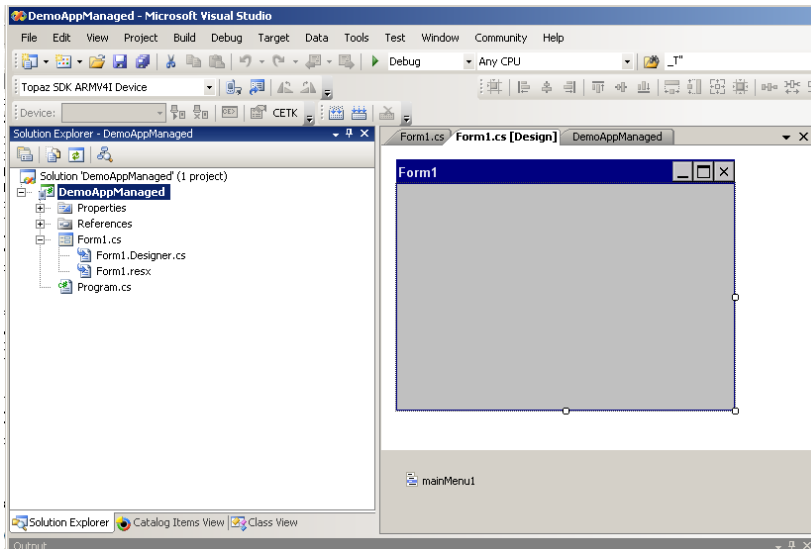

Figure 17: DemoAppManaged
- 5) Figure 17 shows the generated files.